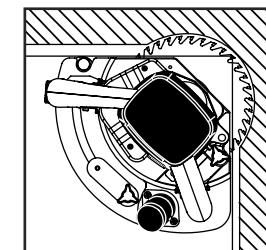

Figure 9
- Remove the depth gauge and retract the stabilizer when cutting inside corners (see figure 9).